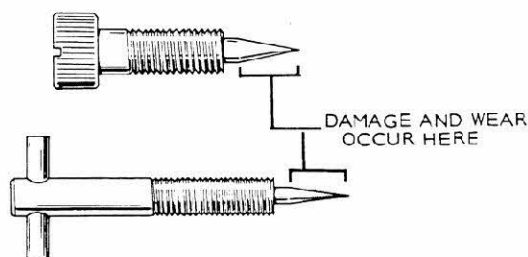

FIGURE 8b. MIXTURE NEEDLE INSPECTION
4. Check the condition of any needle valve not included in repair kit and replace if damaged (Figure 8b). Replace float if loaded with fuel or damaged.